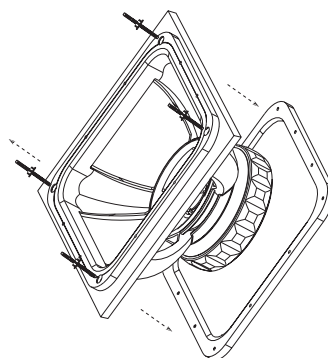

Fig.4
4. With the Gap Cap now installed remove the (4) double end threaded studs that lock the BAM to the wood baffle assembly. Be careful not to let the SPLAT fall on you foot otherwise... you guessed it, splat! Fig.4